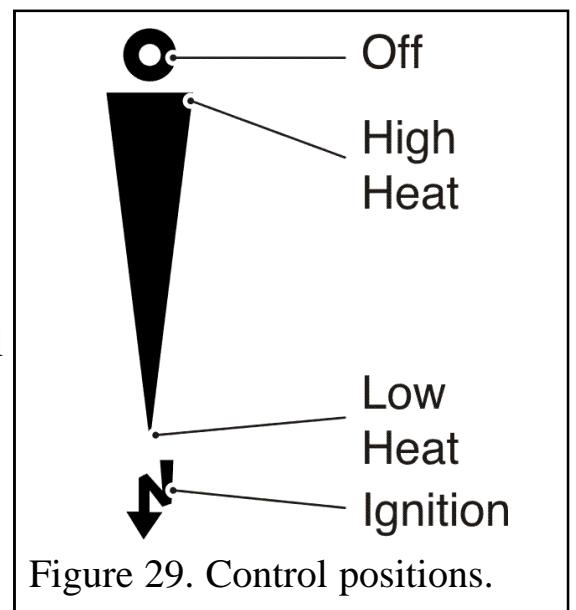

Figure 29. Control positions.
The control position markings on the fascia are shown in figure 29.
1. Gradually slide the button up to increase the burner setting. The burner should be at its maximum setting at the high heat position shown in figure 29. You should feel a check to the button movement at this position.